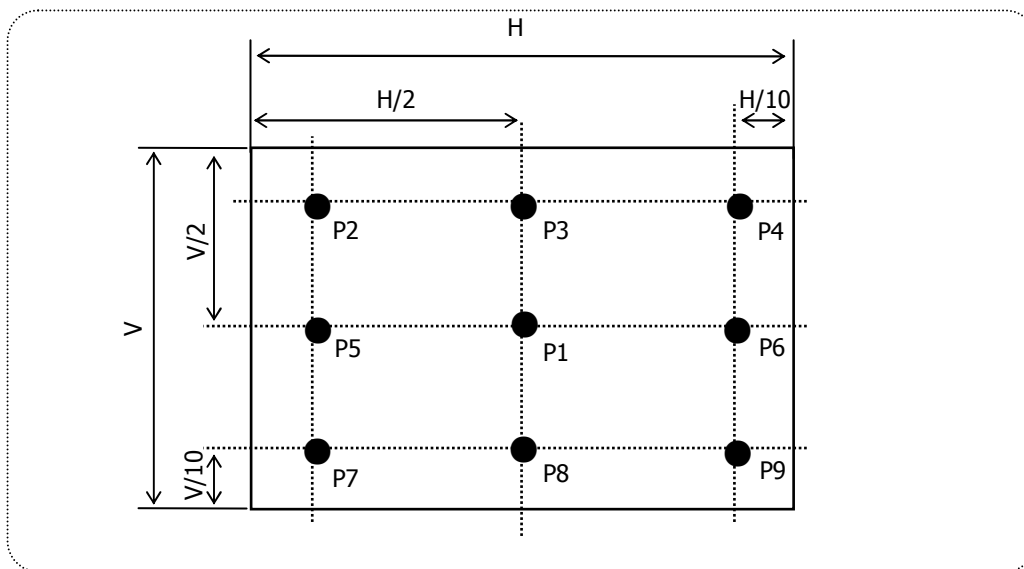

FIG. 2 Measure Point for Luminance
2. Surface luminance(L_{WH}) is luminance value at No.1 point across the LCD surface 50cm from the surface with all pixels displaying white. For more information see FIG 2.
For more information see FIG 2.